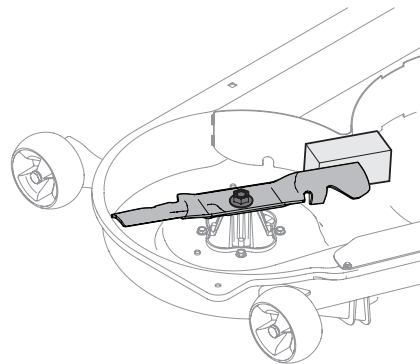

Fig. 2
3. Stabilize one of the cutting blades with a blade lock tool or a block of wood. See Fig. 2.